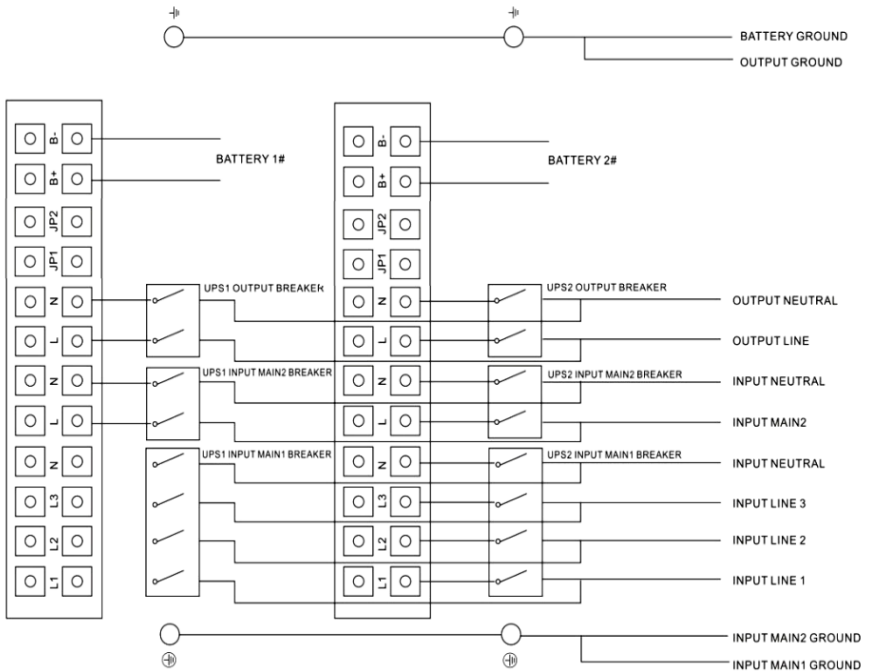

Fig. 6-1 Input and output Terminal Block wiring diagram of C500E-100-B
- 8) Please refer to the wiring diagram (Fig 6-1).